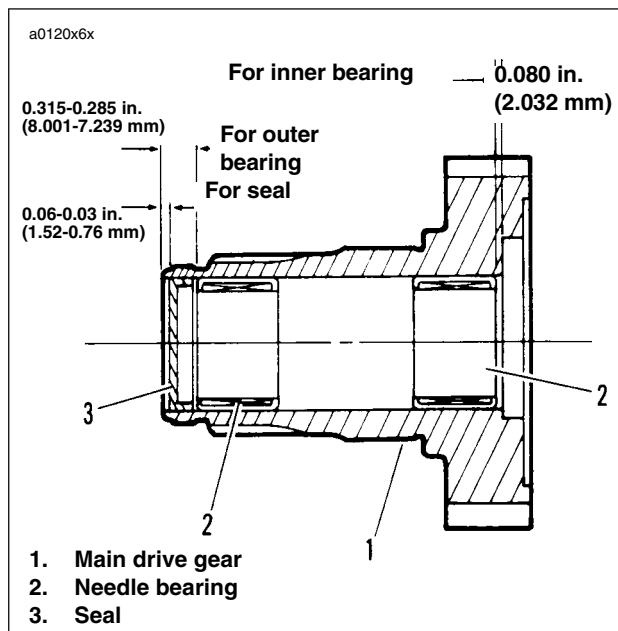
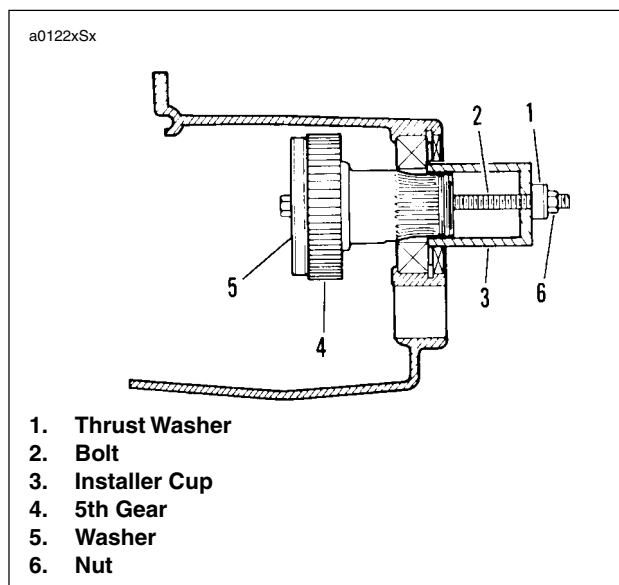

Figure 6-45. Main Drive Gear Assembly
Figure 6-49. Main Drive Gear Installation
3. See Figure 6-45. From inside case tap out seal at end of mainshaft 5th gear. Discard seal.
2. See Figure 6-49. Use MAIN DRIVE GEAR REMOVER AND INSTALLER (Part No. HD-35316-A) for assembly.
- a. Take bolt (2) and place washer (5) followed by main drive gear (4) over end of bolt.
- c. Insert threaded end of bolt (2) through installer cup (3) and thrust washer (1).
- d. Thread nut (6) onto end of bolt (2). Tighten nut (6) until shoulder on gear (4) bottoms against inner race of bearing.
3. See Figure 6-45. Tap in **new** seal (3) at threaded end of 5th gear.